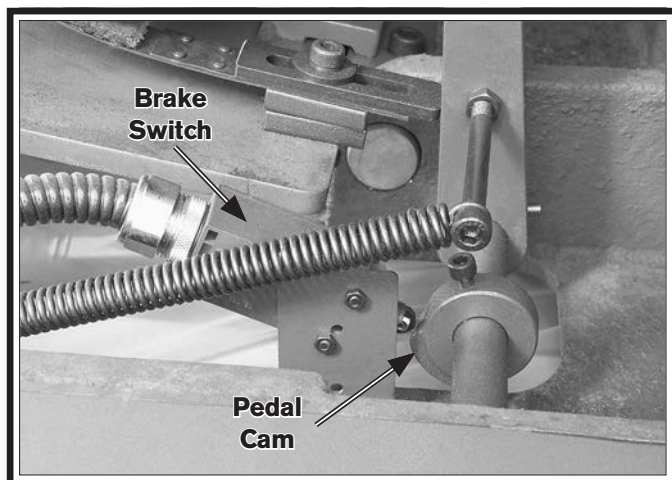

Figure 129. Brake switch and pedal cam.
9. Locate the brake switch shown in **Figure 129**.